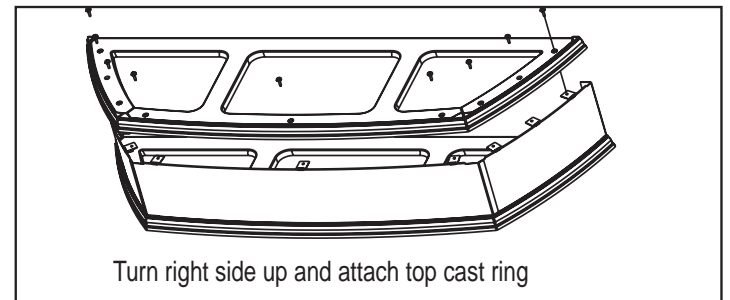

Figure 33.4
5. Now turn the cast ring right side up and attach the top cast ring . **Figure 33.4.**